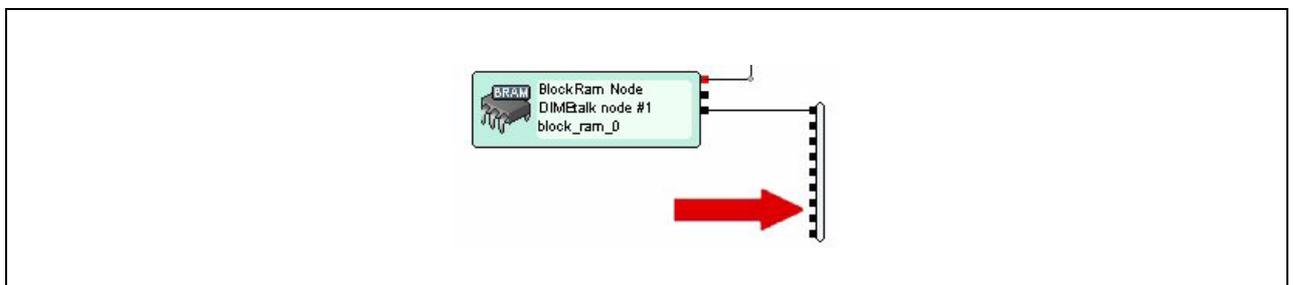

Figure 34: Signal Breakout
3. The signal breakout is now placed down in the DIMEtalk System Design tool as shown by the red arrow in **Figure 34**.